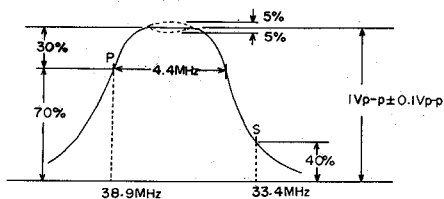

Figure 7
4. Adjust coils (L203 and L204) to obtain the waveform shown in figure 7.